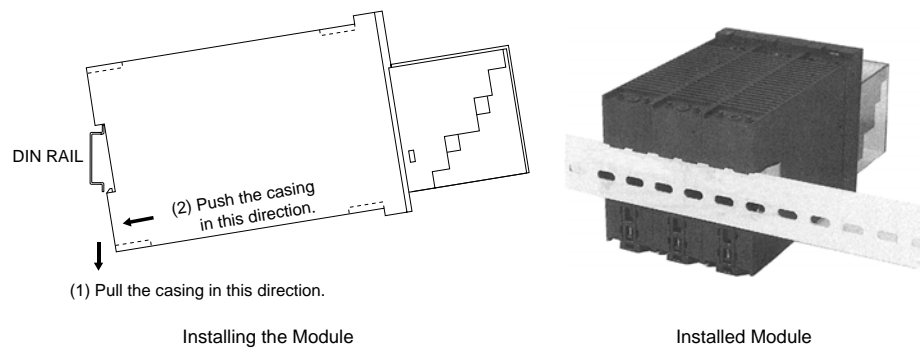

Fig4-5.
(1) Install the module by engaging the top of the DIN rail mount indent of the rear panel of the module with the DIN rail as shown in Fig.4-5.